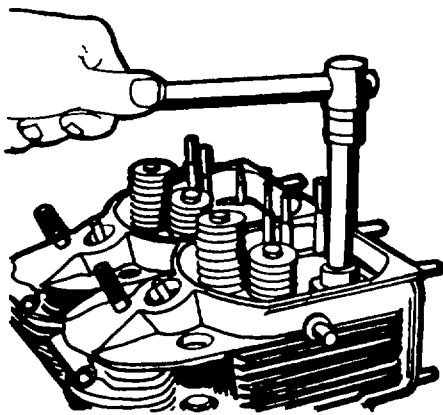

Figure 5-44. Fitting Screw Plugs into Cylinder Head
20. Screw plugs into cylinder heads fitted with new gaskets into the holes for the cylinder head studs (use socket spanner No.003-0512 and square socket insert No.44 003-0511, figure 5-44).